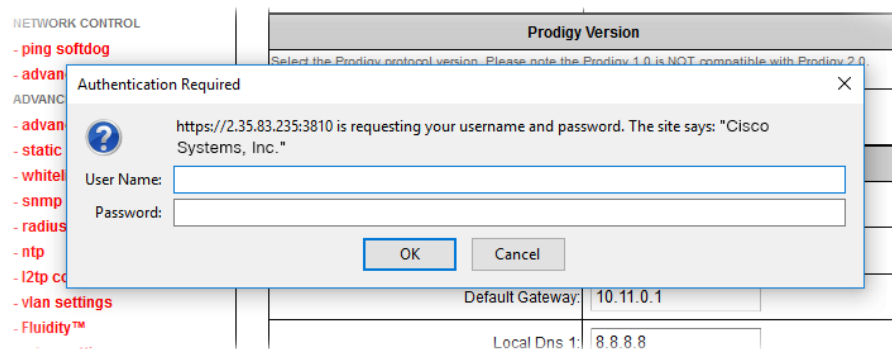

Figure 63. Web browser (Authentication Required dialog)
- The web browser will show the **Authentication Required** dialog (Figure 63 (page 139)). If needed, use the dialog to log in again.